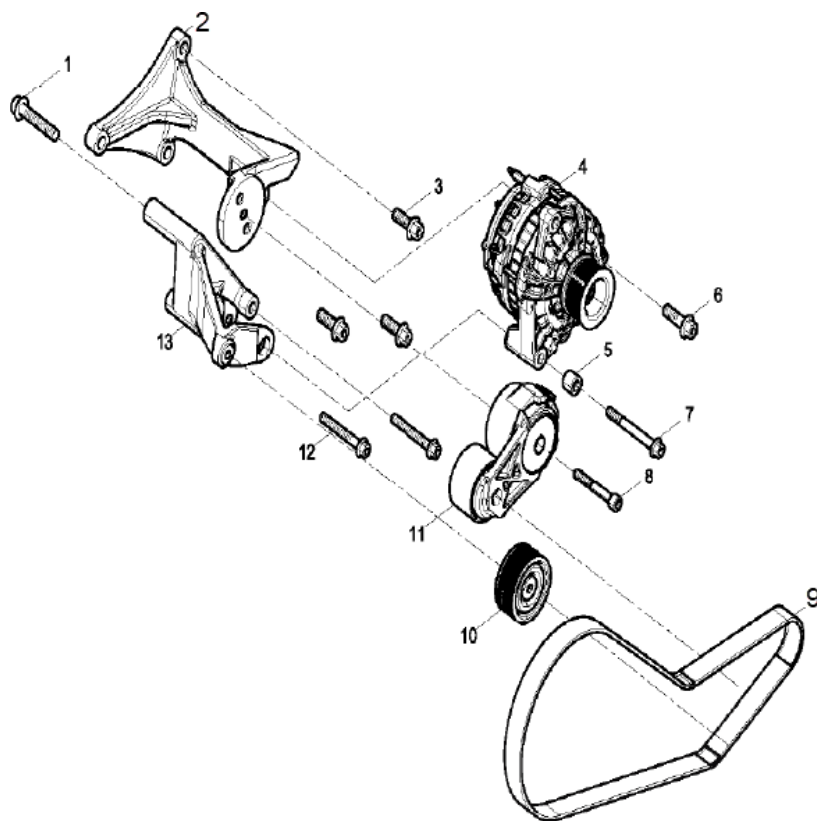

Figure 170. Alternator Assembly
3. Insert a ½” ratchet or breaker bar into the belt tensioner hole (Figure 170, Item 11) and pull to relieve the bolt tension. Slip the belt (Figure 170, Item 9) off the tensioner pulley and remove from the engine.
4. Loosen and remove both bolts (Figure 170, Items 6 & 7) and remove the sleeve (Figure 170, Item 5) if necessary.
5. Remove the alternator (Figure 170, Item 4).
1. Place the alternator (Figure 170, Item 4) onto the bracket (Figure 170, Item 13).
2. Insert the sleeve (Figure 170, Item 5) and insert and torque down the two bolts (Figure 170, Items 6 & 7).